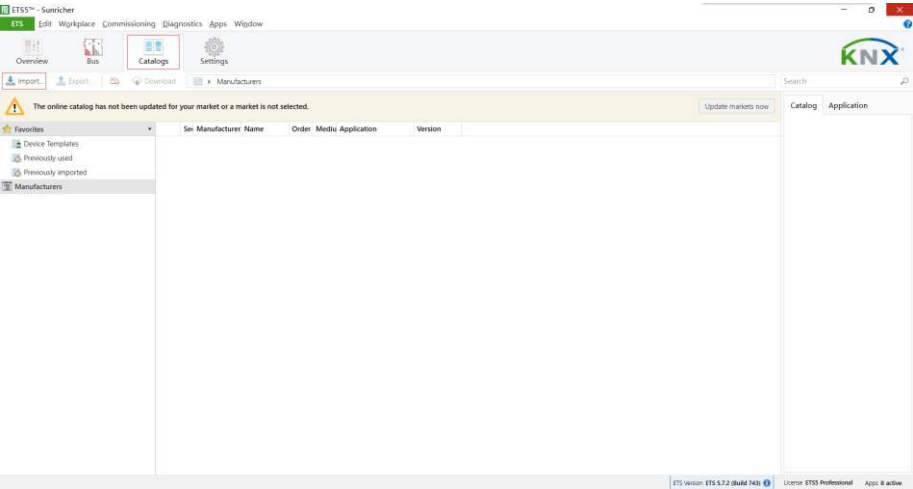

Figure 14
2.1. Import device and database, click on “Catalogs” on the top, then click on “Import” to import the device database as shown in Figure 14.